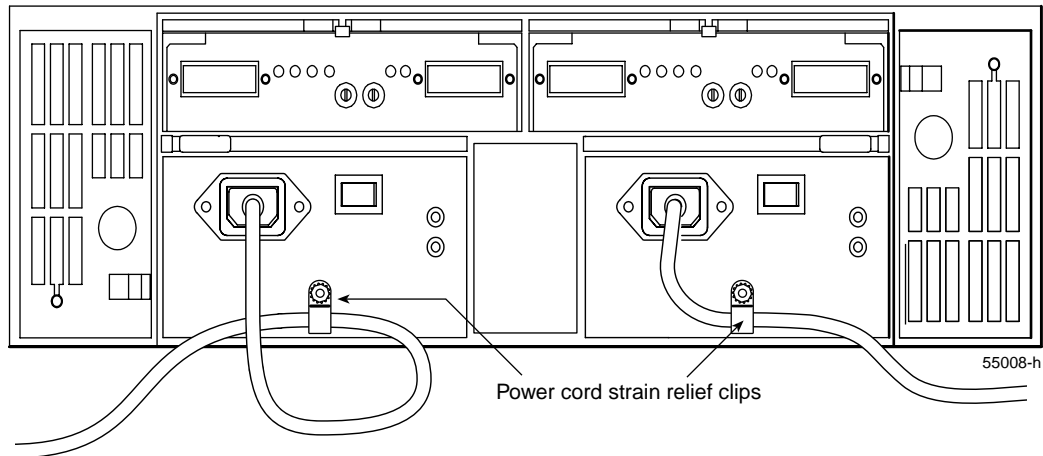

Figure 8-16 Securing the Power Cords in the Cord Clips
6. To keep the power cords from being accidentally pulled from the power connections, secure the cords in the strain relief power cord clips. Figure 8-16 shows how the cords should be secured.